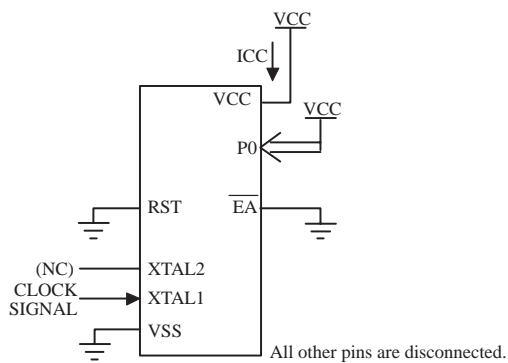

Figure 11 ICC Test Condition, Idle Mode
- Idle ICC is measured with all output pins disconnected; XTAL1 driven with TCLCH, TCHCL = 5ns, VIL = V_{SS} + 0.5V, VIH = V_{CC} - 0.5V; XTAL2 N.C.; Port 0 = V_{CC}; $\overline{\text{EA}}$ = RST = V_{SS} (see Figure 11).